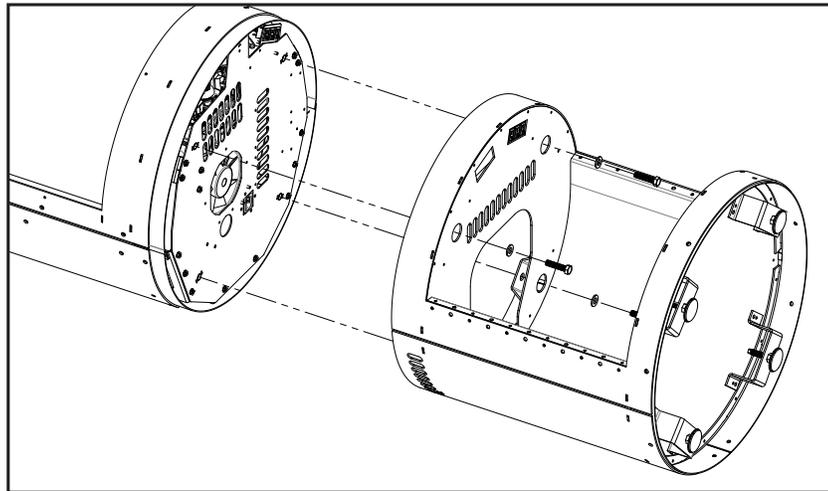

Figure 73: Wood Pedestal Installation v
The wood pedestal comes packaged with four (4) hex head bolts and four (4) washers used to secure the pedestal onto the unit. Fasten the wood pedestal to the unit using the same threaded holes that the leveling legs were installed (see Figure 73).